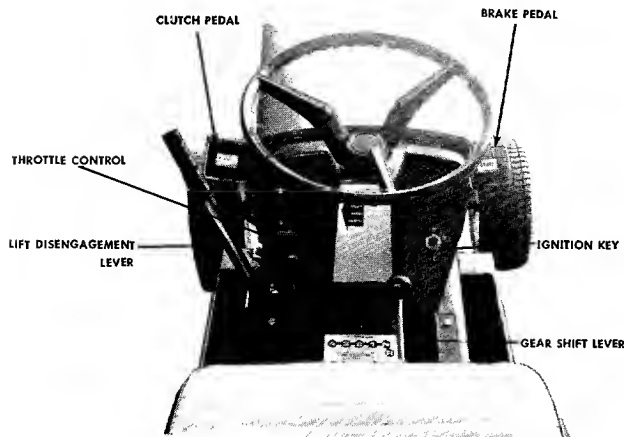

FIGURE 6. CONTROLS
a. **Throttle Control.** The throttle control is used to regulate the engine speed and choke the engine. The engine should be operated from $\frac{3}{4}$ to full throttle when operating the cutting deck or snow thrower (optional). See figure 6.
b. **Gear Shift Lever.** The gear shift lever is used to shift into one of four gears, NEUTRAL or REVERSE. See figures 6 and 7.
c. **Brake.** The brake pedal is located on the right hand side of the mower and is operated by depressing it with your right foot. See figure 6.
e. **Clutch Pedal.** The clutch pedal is used to disengage the drive mechanism. Depressing the clutch pedal at any time will slow you down or, if depressed all the way, will stop the mower. See figure 6.
g. **Ignition Switch.** The ignition switch is located on the right side of the dashboard. See figure 6. Turn the key to the ON position when starting the engine. To stop the engine turn the key to the left to the OFF position and remove the key to prevent accidental starting.
Step 4. Set the throttle control in the CHOKE position. See figure 6.